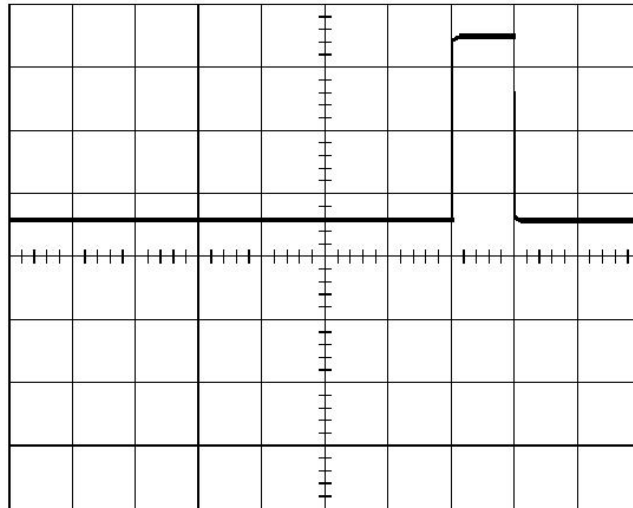

Figure 4:
9. Set the scope's Timebase control to  $10\mu\text{s}/\text{div}$ . Adjust the scope's Variable Sweep control until the FS signal looks similar to the signal in Figure 4.